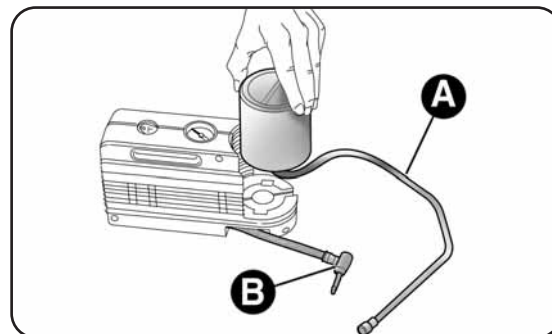

fig. 20
- release coupling A-fig. 20 and disconnect pipe B;